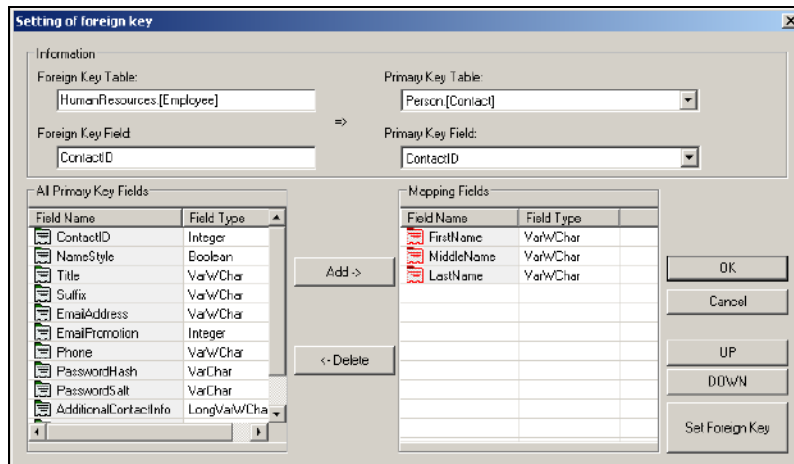

Figure 17-9
8. In the left pane of the foreign key dialog box, select the field(s) of the Primary Key Table corresponding to the field of the Foreign Key Table. In this example (Figure 17-9), the **Contact ID** field of “Human Resource (Employee)” Foreign Key Table is linked to the **First Name, Middle Name and Last Name** fields of “Person (Contact)” Primary Key Table.
9. Click **OK**. In the Mapping Setting window, you can see the mapping results. In the example (Figure 17-9), the **Name** field of the GV-ASManager database is mapped to the **Contact ID** field of the source database which includes **First Name, Middle Name and Last Name** (which are linked from the Primary Key Table).